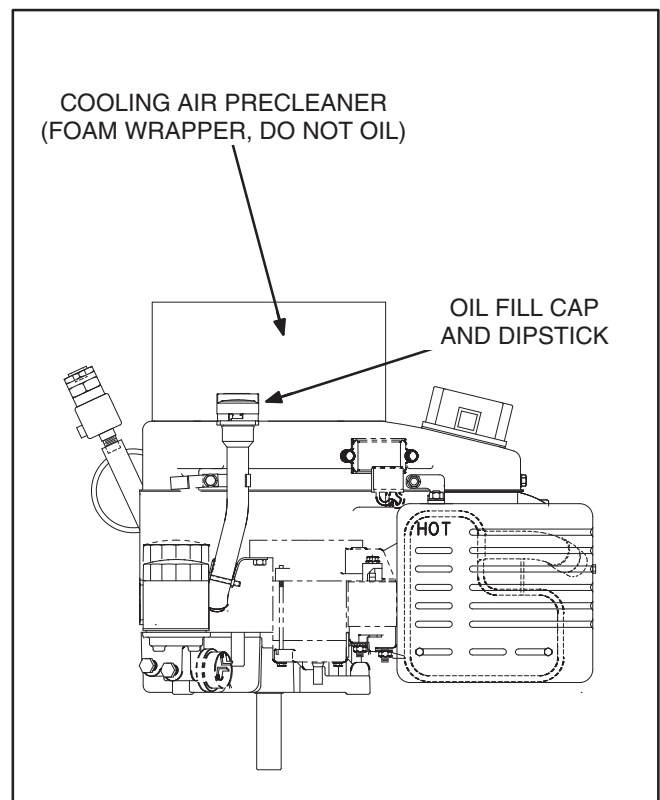

FIGURE 3. OIL FILL CAP/DIPSTICK AND COOLING AIR PRECLEANER ELEMENT
3. Remove the cooling air precleaner (foam wrapper, Figure 3) every 4 to 8 hours of operation and wash it in warm water and mild detergent. Thoroughly rinse and dry the foam wrapper before reusing it. **Do not oil.**
4. Check the engine oil level with the oil dipstick (Figure 3). First park the equipment on a level surface, stop the engine and wait a minute or so to allow the oil to settle in the crankcase.